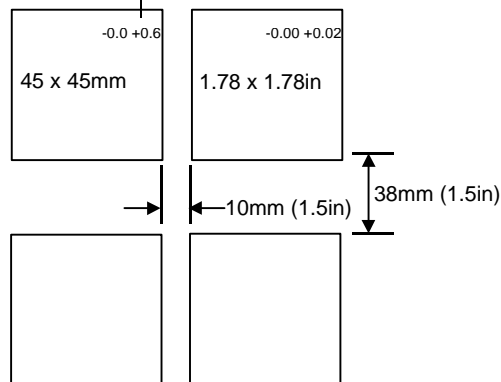

Figure 1-3 Panel cut-out and spacings
The electronic assembly of the controller plugs into a rigid plastic sleeve, which in turn fits into the standard DIN size panel cut-out shown in Figure 1-3. The controller can be unplugged from its sleeve by easing the latching ears outwards and pulling it forward out of the sleeve. When plugging the controller back into its sleeve, ensure that the latching ears click into place in order to secure the IP65 sealing.
1. Prepare the control panel cut-out to the size shown in Figure 1-3.